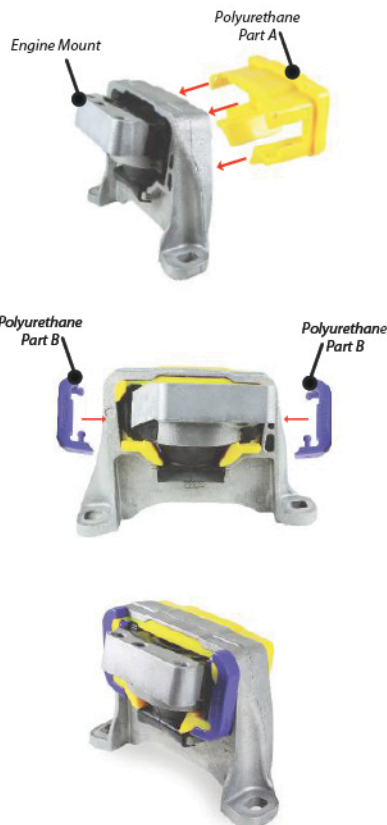

Figure 1 - fitted assembly instructions images
2. Fit polyurethane A insert into the engine mount bush, from the right hand side of the vehicle, as shown in Figure 1.
3. Insert each polyurethane B insert into the holes at the top of polyurethane A insert, as shown in Figure 1.